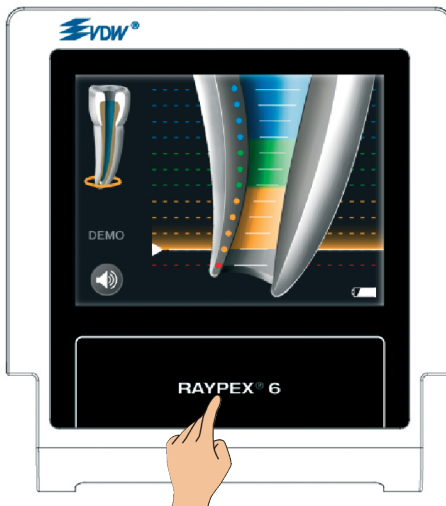

Fig. 37 Exit DEMO mode
- To exit the DEMO mode, tap the RAYPEX® 6 “home” icon (Fig. 37).